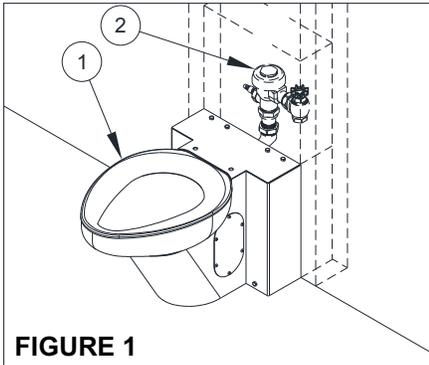

FIGURE 1
- A. With the Toilet [1] and the Flush Valve [2] installed, place Bottom Supports [3] Flush against the back wall 18-3/4" apart. **Figure 1 & 2.**